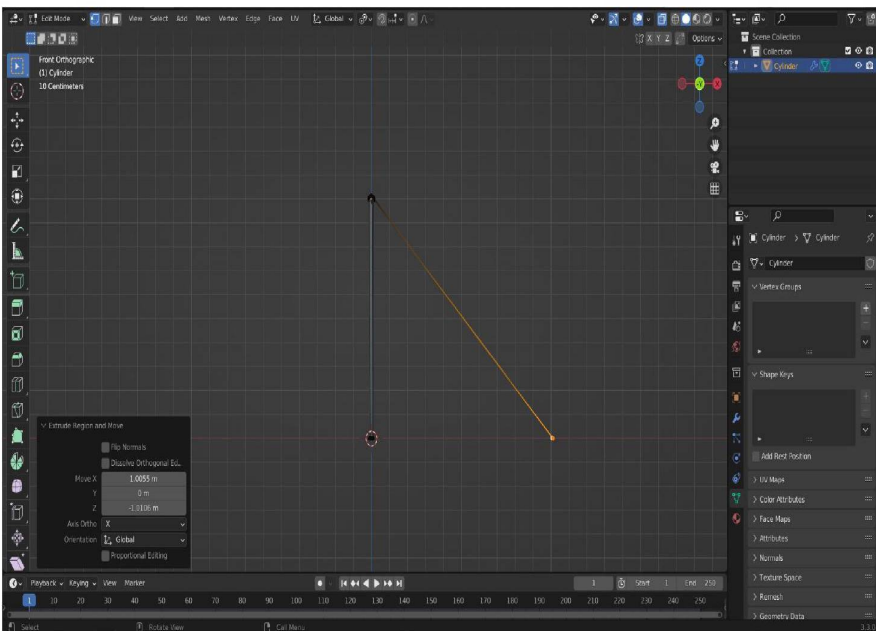

Figure 9.13: Tent fabric edge extruded from duplicate top edge of rope
22. Press **1** on the Number pad to switch to **Front Orthographic** view, then press **E** to extrude the selected edge, and move it down in the viewport to approximately where the bottom edge of a tent would meet the ground as shown in *Figure 9.13*: